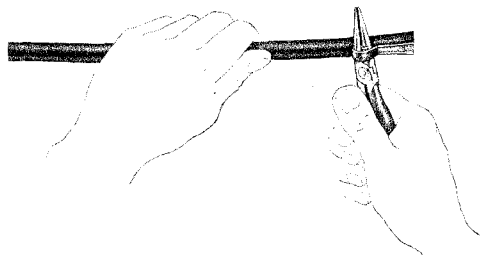

Fig. 3 — Rolling the Jacket Back on Itself with Long-Nose Pliers
(3) Release the rolled back portion of jacket and grip it again with long nose pliers. Again roll the jacket back on itself until it pulls free of the glass yarn tape, then pull off the jacket with a strong steady pull over the required distance from the wire end. See Fig. 3.